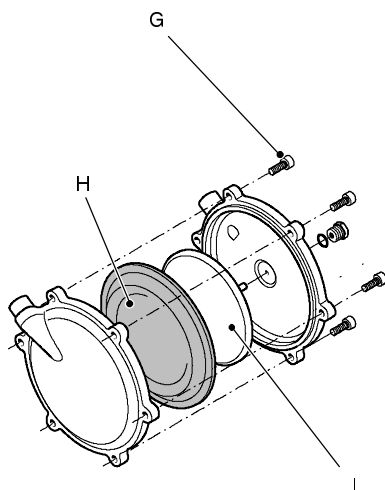

fig. 28
Assembling the part, ensure to place the concave side of the membrane towards the actuator plate *I* (fig. 28).
- 4 Unscrew the six screws *G*, open the hydraulic actuator and remove the membrane *H*. (fig. 28).